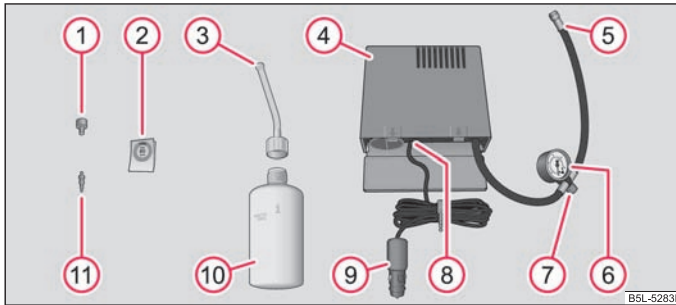

Fig. 184 Components of the tyre repair kit
- Stick the sticker ② ⇒ fig. 184 on the dash panel in view of the driver.
- Use the valve remover ① to remove the valve core and place it down on a clean surface. ■
- Forcefully shake the tyre inflator bottle ⑩ ⇒ fig. 184 several times.
- Firmly screw inflation hose ③ onto the tyre inflator bottle in a clockwise direction ⑩. The film on the cap is pierced automatically.
- Remove the plug from the inflation hose ③ and plug the open end fully into the tyre valve.
- Hold the bottle ⑩ with the floor facing upwards and fill the whole sealing agent in the tyre inflator bottle into the tyres.
- Screw the valve core back into the tyre valve using the valve remover ①.
- Screw the tyre inflation hose ⑤ ⇒ fig. 184 of the air compressor firmly onto the tyre valve.
- Check whether the air release valve ⑦ is closed.